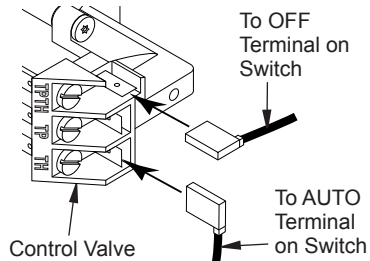

Figure 19 - Connecting Wires
3. Attach wires to control valve as shown in Figure 19.